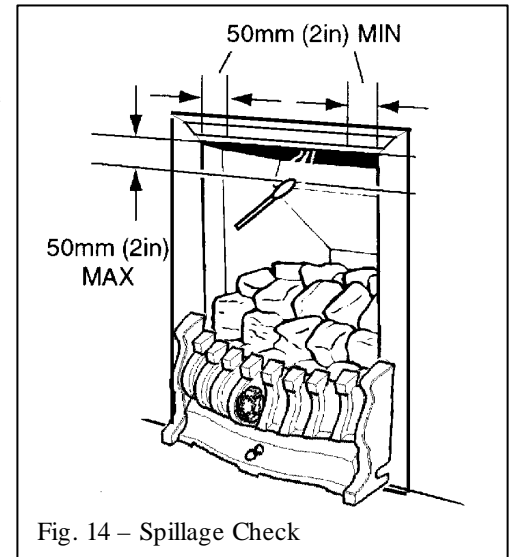

Fig. 14 – Spillage Check
*A spillage check must be made before leaving the installed appliance with the customer. Make this with all the ceramic coals in position. ( see fig 14 )*